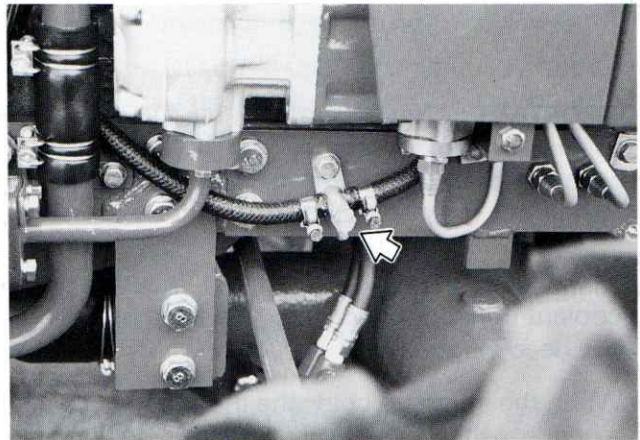

Figure 45 — Combination Engine Block and Radiator Drain Valve
1. Remove the radiator cap and open the drain valve along R.H. tractor frame. This valve will drain radiator and engine block, Figure 45.